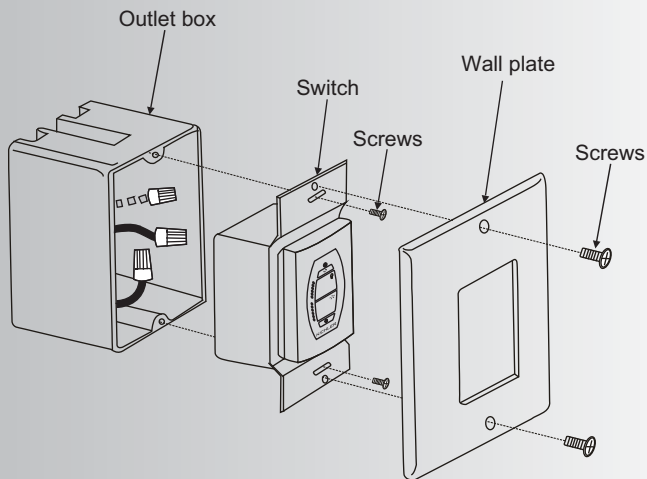

Fig. 21
Step 2. Install the wall plate on the existing wall outlet box using the screws provided. (Fig. 21)